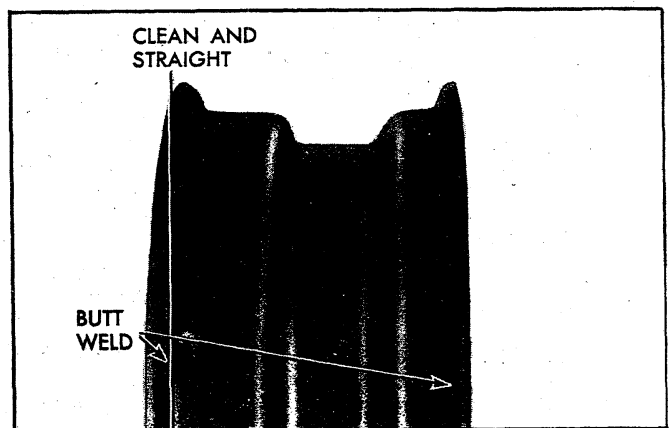

Fig. 7 - Rim Inspection
4. Insert assembly through rim from inside (fig. 7). Snap into place, using a pair of slip-joint pliers with one jaw on rim and one jaw on base of valve assembly.